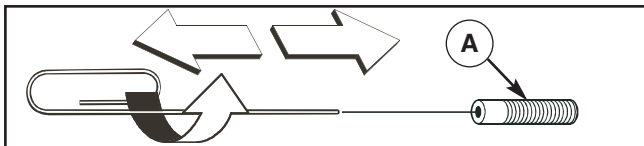

Figure 18: Cleaning orifice
6. Use a small paper clip to free any foreign material clogging or restricting orifice (A) (Figure 18).